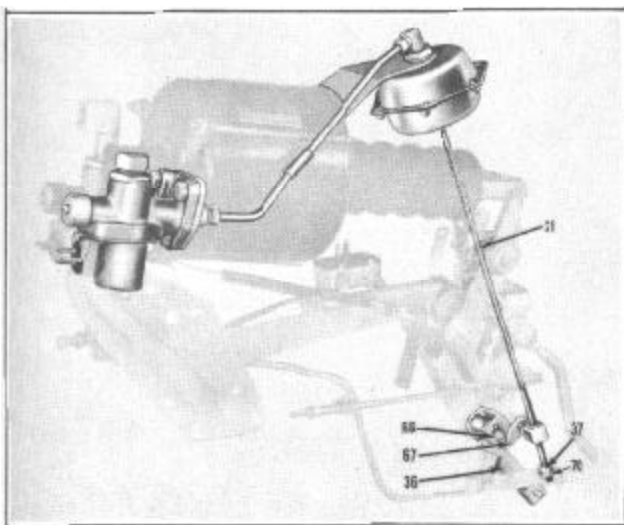

FIGURE 33
Figure 33, on the diaphragm cable until lever (67) is held solidly against stop (36) when accelerator pedal is depressed. Securely lock nut (37) with nut (70). Cable (21) should not be so short that shaft (66) is deflected when throttle lock operates.